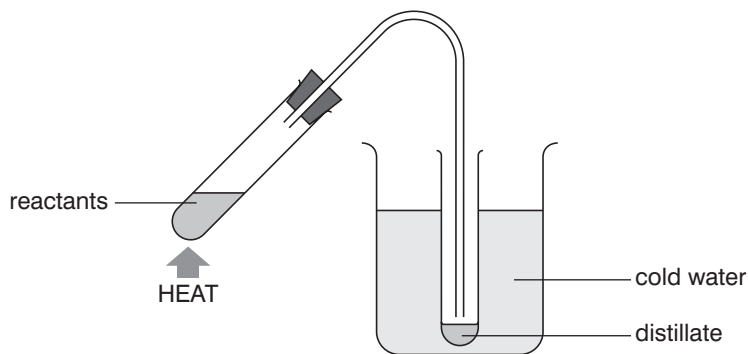

Figure 1 Distilling off the product of oxidation
- 5 Where reaction has occurred, distil out a few drops of liquid from each tube using the apparatus shown (Figure 1).